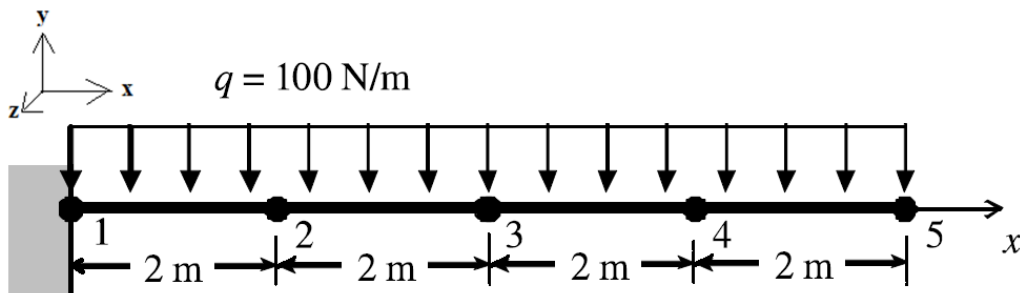

Figure Q2B
- (b) (i) Explain how you would apply a fixed support to node 1 of the beam shown in Figure Q2B.